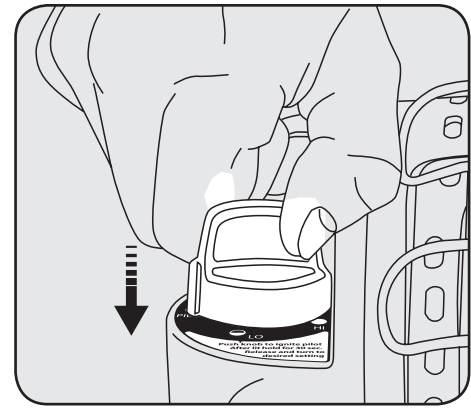

Figure 3
4. Turn Control Knob counterclockwise to "PILOT" position and depress to light. See Figure 3.
- Turn Control Knob counterclockwise to "PILOT" position and depress to light. See Figure 3 on previous page. This may take longer to purge air from the supply hose depending on the length of the hose being used.